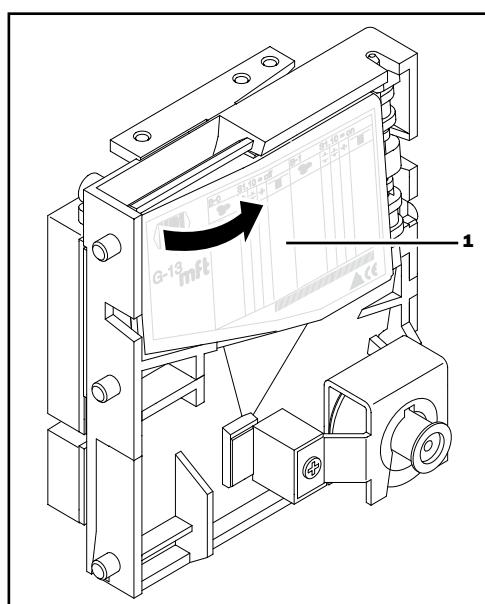

Fig. 10: Opening the flight deck of the coin validator
- 2 Carefully open the flight deck [Fig. 10/1] on the left-hand side and hold it open.